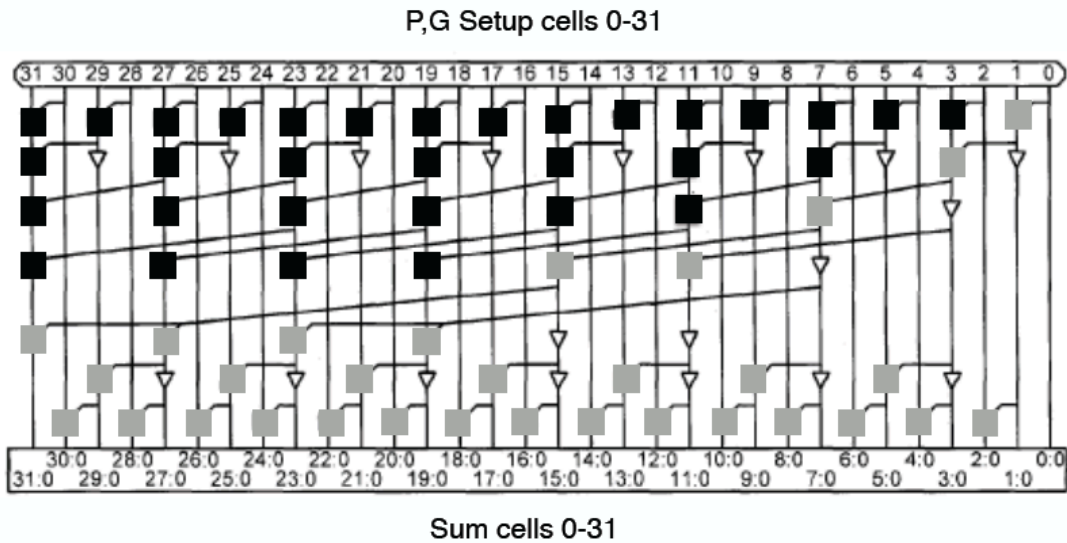

Figure 13: The complete 32-bit adder. Other solutions are also possible.
- c) See solution in Figure 13.